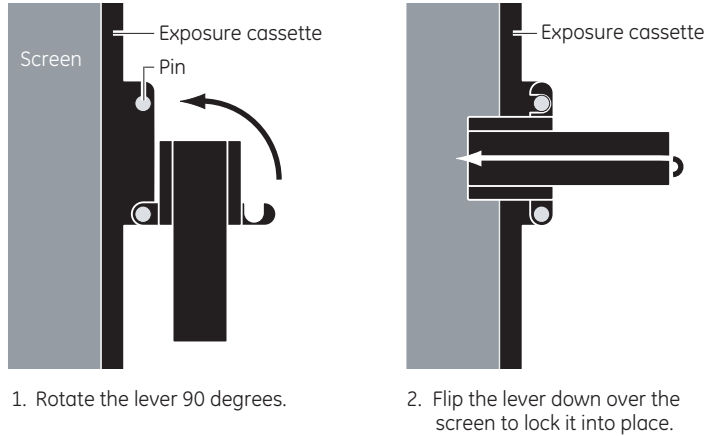

Fig 5-4. Closing the exposure cassette for mounted screens.
- 5 Close the exposure cassette by rotating each clamp counterclockwise until it stops at the pin (fig 5-4) and then flipping the lever over to lock the screen into place.